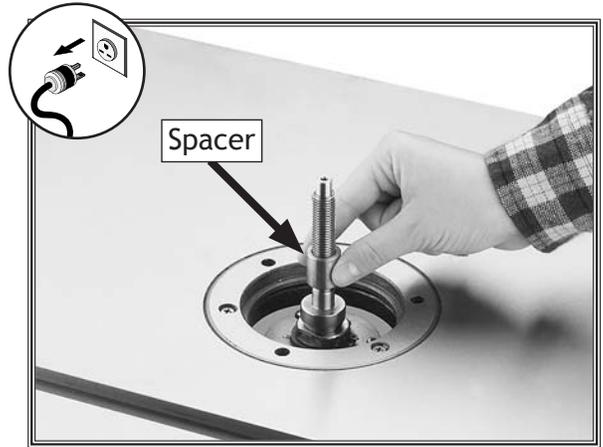

Figure 39. Installing a spindle spacer.
3. Place the required spindle spacers on the insert, as shown in **Figure 39**.